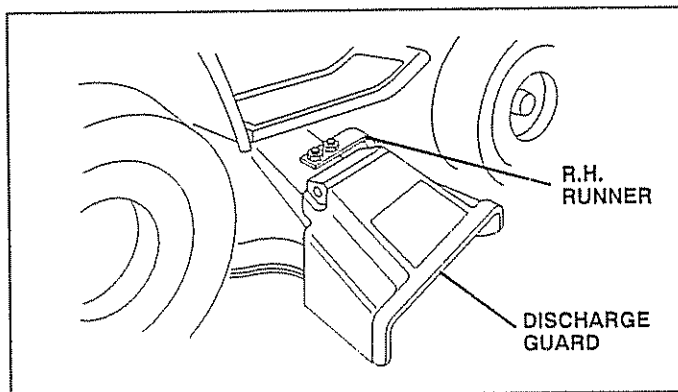

FIG. 13
- Use the runner on the right hand side of mower as a guide. The blade cuts approximately an inch outside the runner (See Fig. 13).